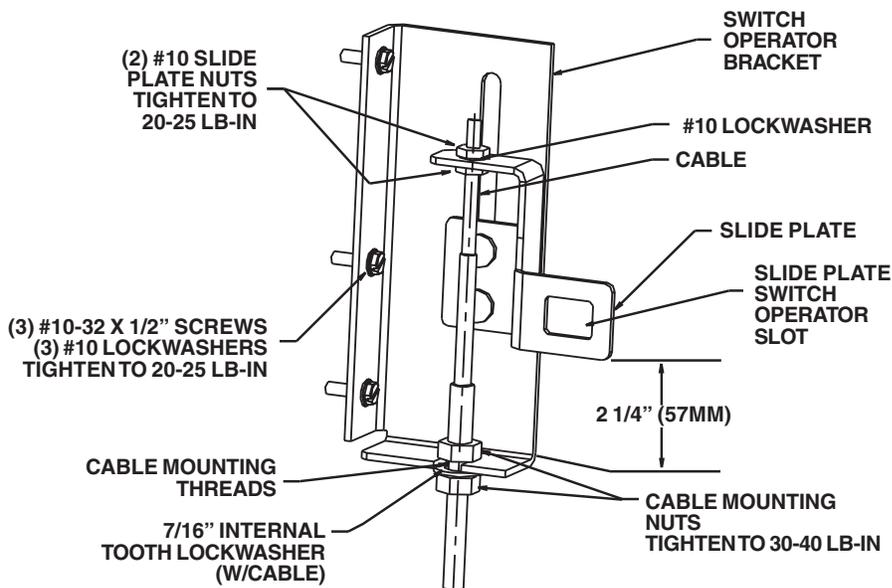

Figure 7
- 7.1 Mount switch operator bracket to enclosure panel with the three # 10-32x 1/2 inch screws, washers and lockwashers as shown in Figure 7. Tighten to 20-25 lb-in.
- 7.2 Place one #10 slide plate nut to approximately 1 3/4 inches from the end of cable. Put end of the cable thru the hole in the slide plate as shown in Figure 7. Place cable mounting thread in U shaped slot in switch operator bracket and use cable mounting nuts to secure cable in slot as shown.
- 7.4 Preadjust cable for switch by adjusting cable mounting nuts so that slide plate is approximately 2 1/4 inches from back of support switch operator bracket as shown in Figure 7.